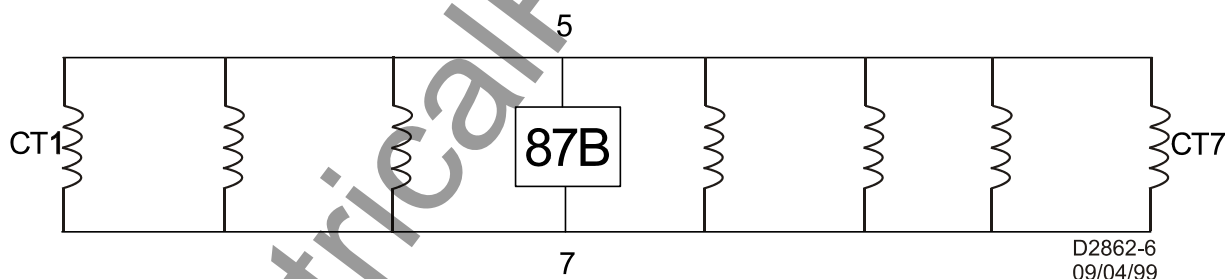

Figure 2-9. Voltage Appearing Across Full Winding of CT
The following calculations are based on a seven-breaker bus as shown in Figure 2-9. For this example, 1200/5 CTs are used, all on the same ratio and same accuracy class as per Figure 2-6.
2. In our example case, 7 CTs are in parallel with a relay input impedance of 5k ohms resulting in an equivalent impedance of 240 ohms (refer to Figure 2-9).